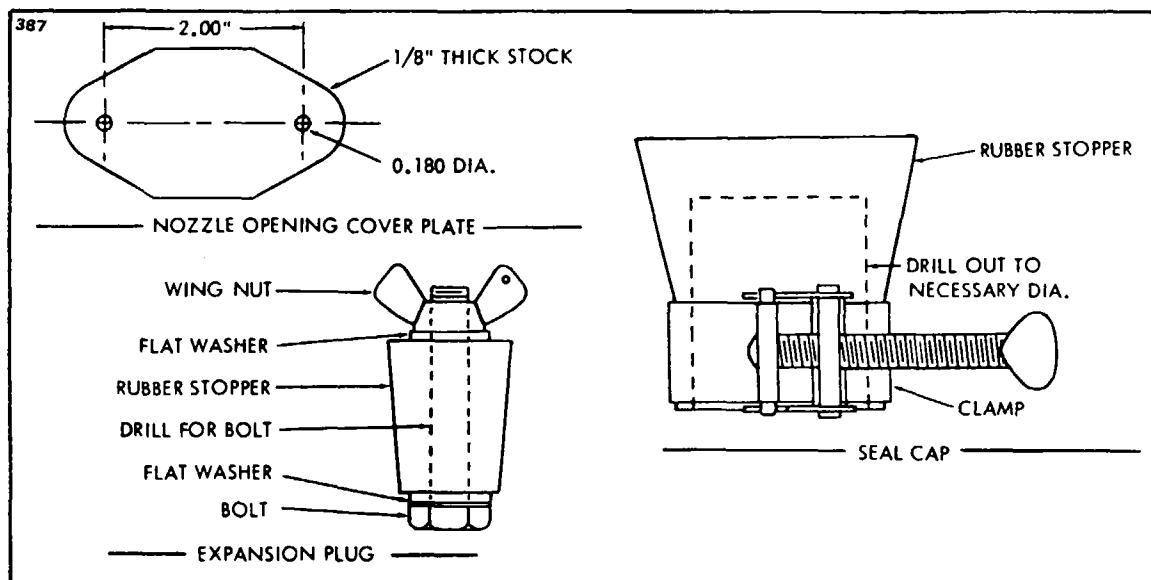

Figure 13-29. Suggested Design for Seal Plate, Plugs and Caps for Combustion Tube Leakage Test
- b. Test the combustion tube assembly (86) for leaks as follows:
- 1. Fashion a sealing plate from approximately .125 inch thick flat stock to seal the nozzle holder opening in the combustion tube assembly. (Refer to Figure 13-29.) Use a rubber gasket under the plate and attach the plate with two screws.
- 2. Make up seals for all remaining openings, except the one used to connect the air pressure source. (Refer to Figure 13-29.) Use rubber stoppers as shown. The combustion air inlet tube can be sealed best with a drilled stopper and clamp. Other openings should be sealed with expansion plugs. The seal used in the exhaust tube should be formed so that it will not deform the air pressure switch tube which protrudes into the exhaust.